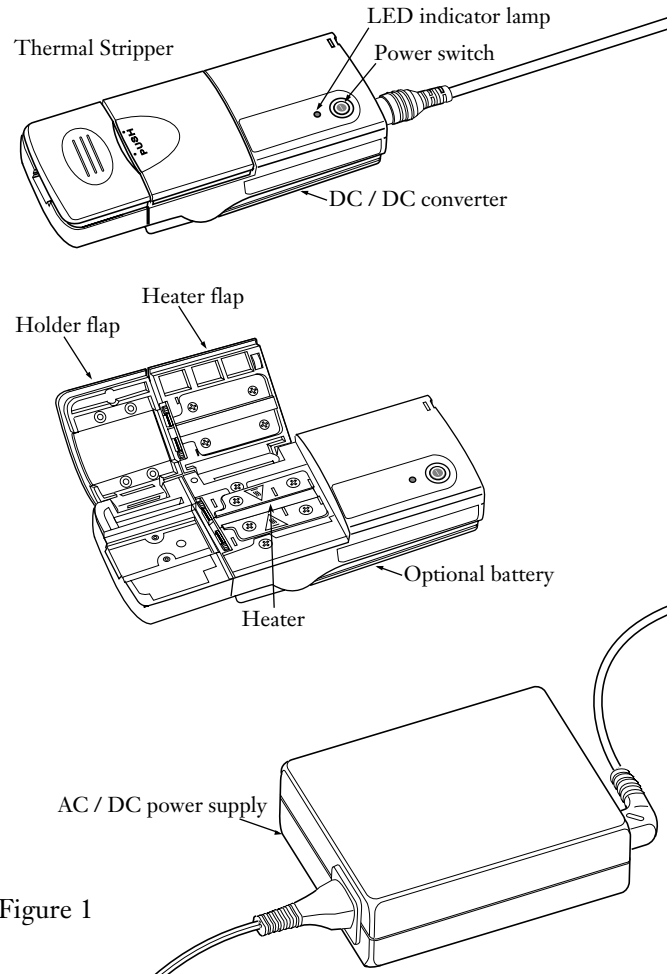

Figure 1
**3.1** The stripper may be powered by either the 7.4 VDC battery provided (p/n 2814075-01), an external 12 VDC source such as a fusion splicers's DC output jack, or by the AC / DC power supply which is also supplied with the stripper (Figure 1).